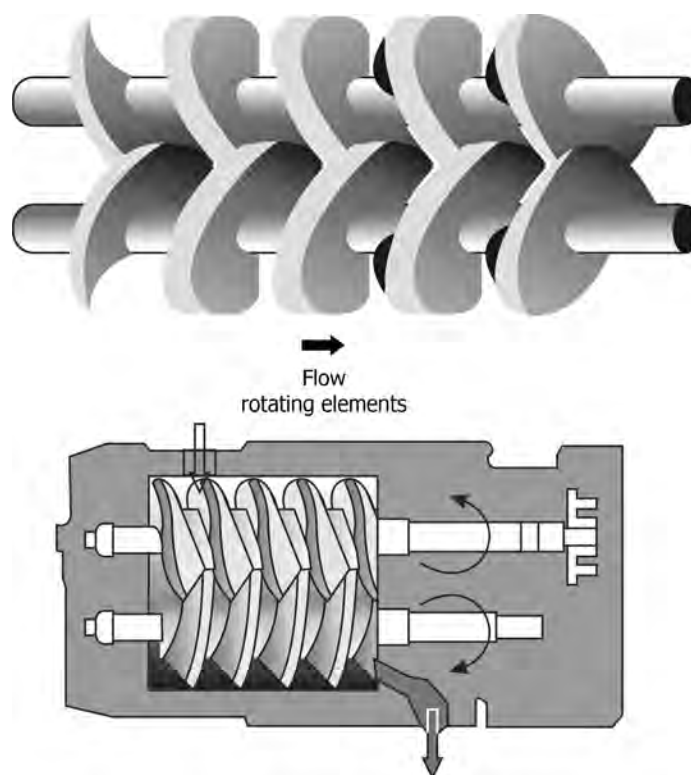

FIGURE 5.26 Rotary screw pump.
- Figure 5.26 shows the rotating elements and the assembly of a rotary screw pump.